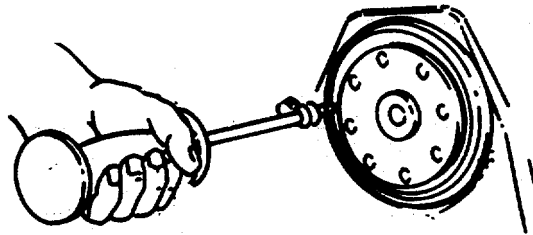

FIGURE 3-50. Seal Removal.
- (3) Install #10 metal screws in holes drilled. Use slide hammer to extract seal (FIGURE 3-50) and discard.